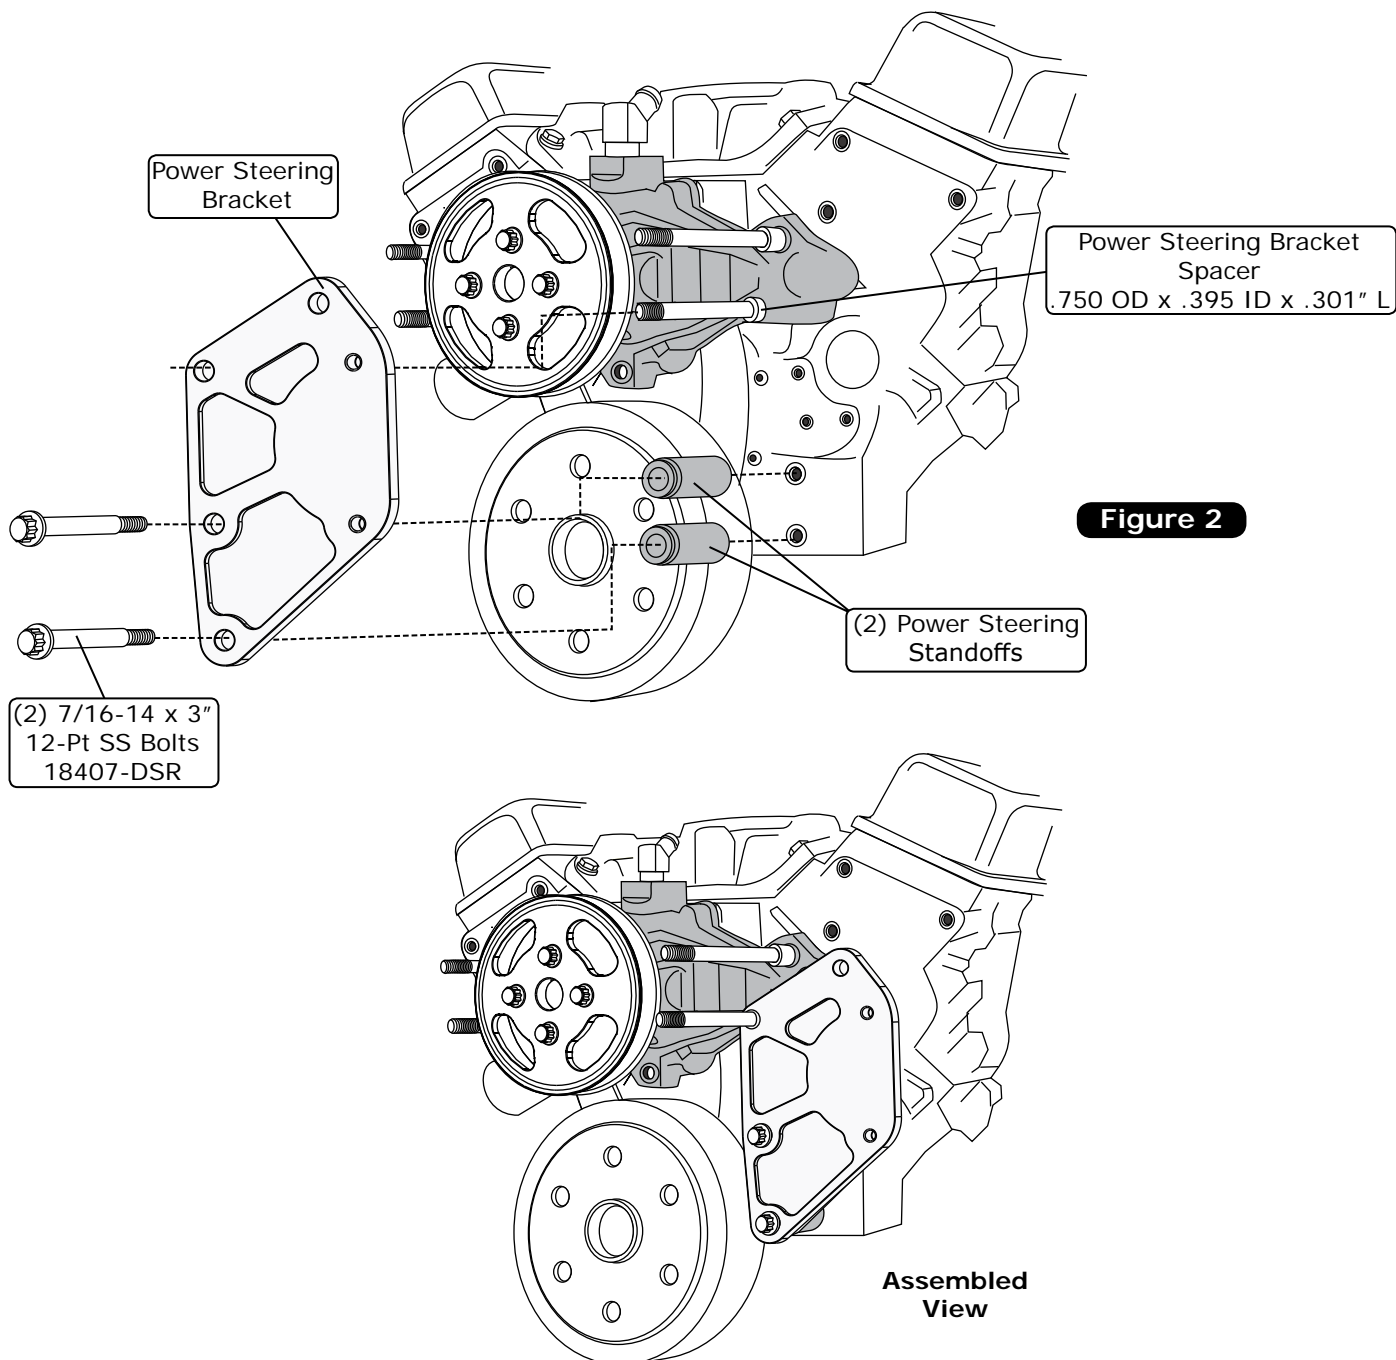

Figure 2
1. Install the power steering bracket onto the lower driver side mounting stud (See Figure 2, below).
2. Place the (2) power steering standoffs with shoulder ends toward the bracket between the engine block and the power steering bracket. Secure the power steering bracket using (2) 7/16-14 x 3" 12-Pt SS bolts as shown in Figure 2, below. Torque to 35 lb ft.